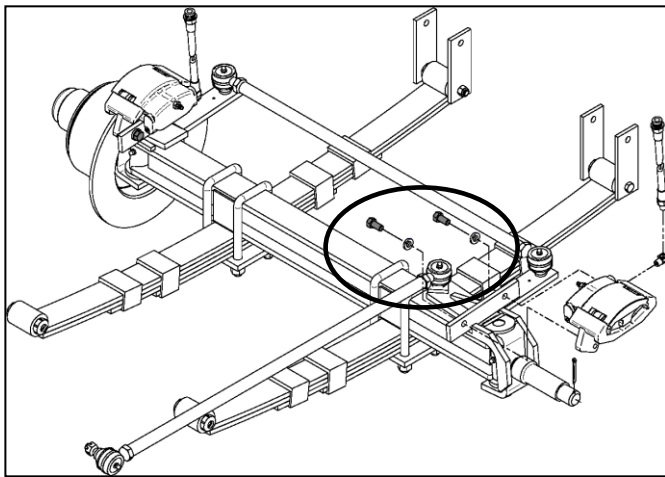

Figure 5-4- Front
4. Disengage the brakes and remove brake caliper mounting hardware (Figure 5-4 & 5-5).
13. Rotate caliper with rotor centered in brake pads and install caliper mounting hardware (Figures 5-4 & 5-5).
4. Remove brake caliper mounting hardware (Figure 5-4 from the brake caliper mounting bracket.
9. Reinstall brake caliper with mounting hardware (Figure 5-4. Use caution when remounting the brake calipers. Tighten each of the 5/16" bolts gradually alternating from one to the other. As you tighten the bolts be certain that the pads are parallel to the disk—if they are not, a "spongy" brake pedal may result. Also be sure that the caliper can still move back and forth in the caliper housing mounting. If it can't, uneven pad wear will result.